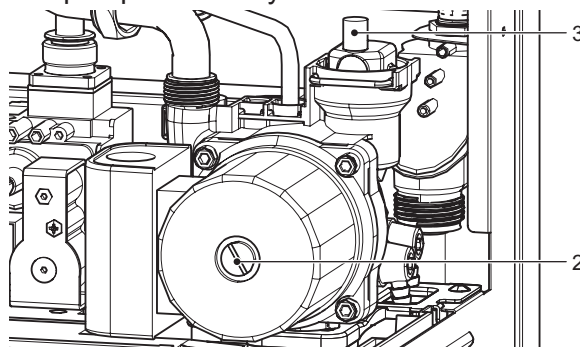

Figure 15.1
- Lift the cap on the automatic air purger valve 3 (Fig 15.1) one full turn and leave open permanently.
- Purge the air from the pump by unscrewing the pump plug 2 (Fig. 15.1); release the pump by turning the rotor in the direction indicated by the arrow on the information plate.